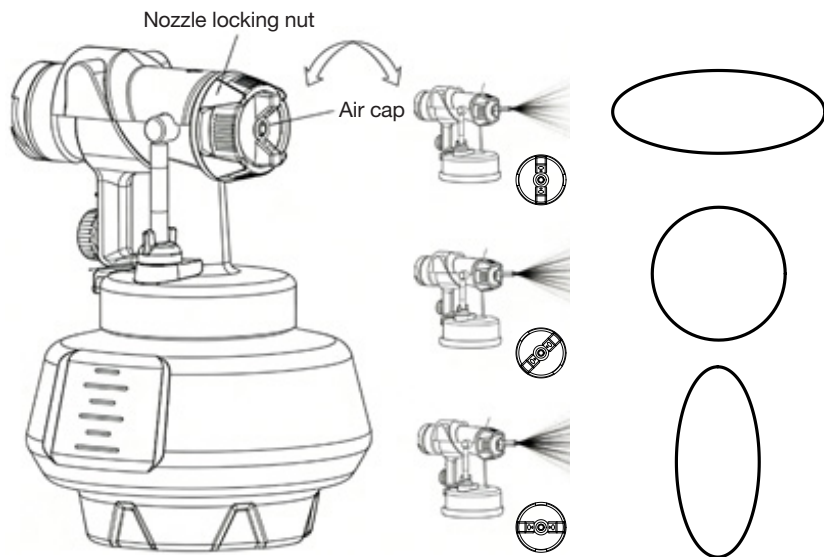

Fig. 7
- 5e) The spray pattern is adjusted by rotating the air cap lugs to the vertical, horizontal, or diagonal position. The relationship between the air cap orientation and the resulting spray pattern is shown below. Each pattern should be tested to determine the most suitable setting for the application. **See Fig. 7**